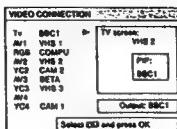

Fig. 41.
- 1 Select »Video Connection« with Δ + or ∇ – and press OK. The VIDEO CONNECTION menu appears. (See Fig. 41). You can see which source is selected for the TV and PIP input, and for the output. If you want to select the input and output on this menu, go on to the next step.